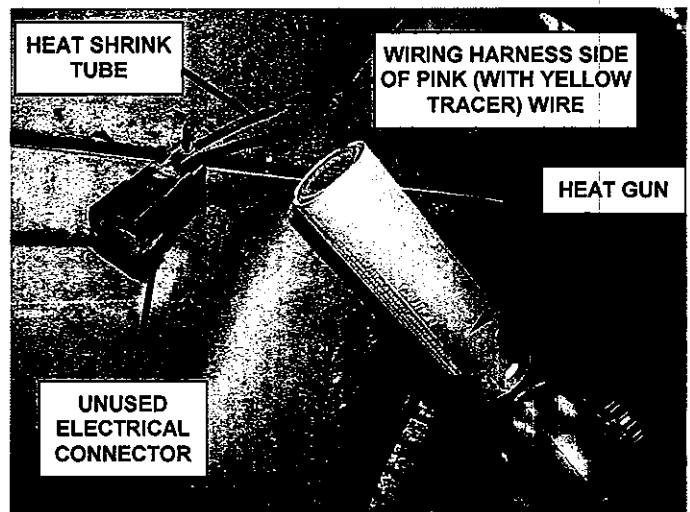

Figure 4 – Shrink Tube
- Using a heat gun, heat the shrink tube until glue comes out of both ends of the shrink tube (Figure 4).